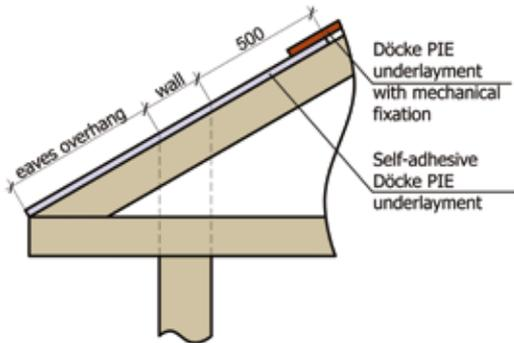

Fig. 7. Layout of self-adhesive underlayment on the eaves.
4.1.3 At the roof valley and along the eave overhang, it is recommended to install Döcke PIE self-adhesive underlayment. The size of the eaves overhang is equal to the size of the eaves overhang itself plus part of the slope above the wall plus 500 mm (Fig. 7). The remaining surface of the slopes may be covered with